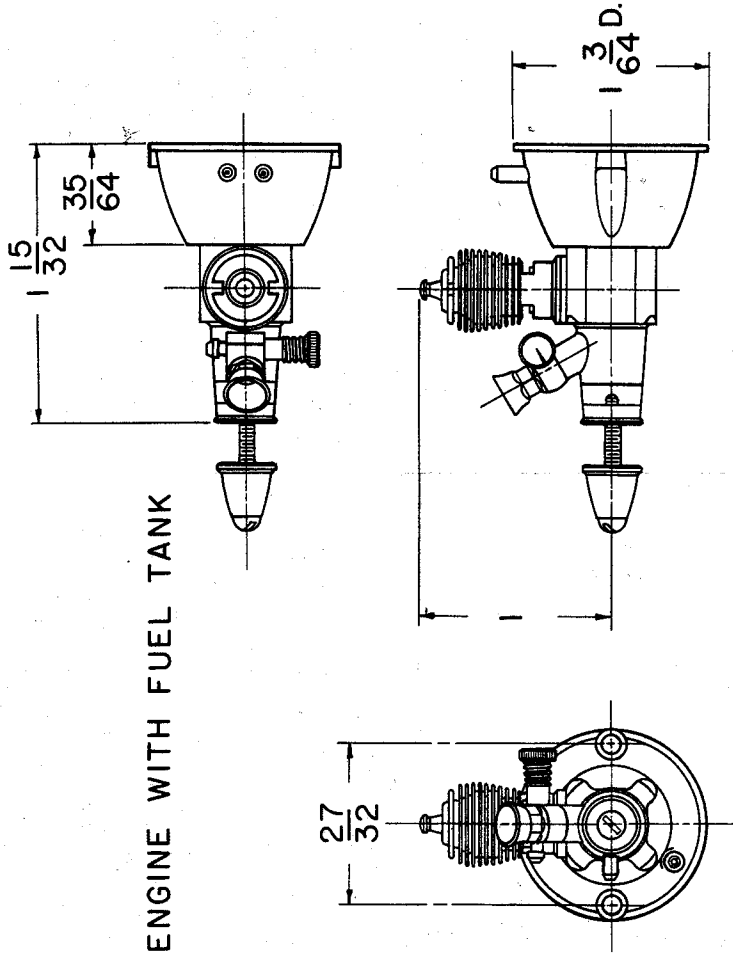

FIG. 2
1. Mount the engine in the plane, or if you want to give it some running first, mount it on a suitable mount. Do not hold the engine directly in a vise. Use the appropriate template from Fig. 2 to drill mounting holes.